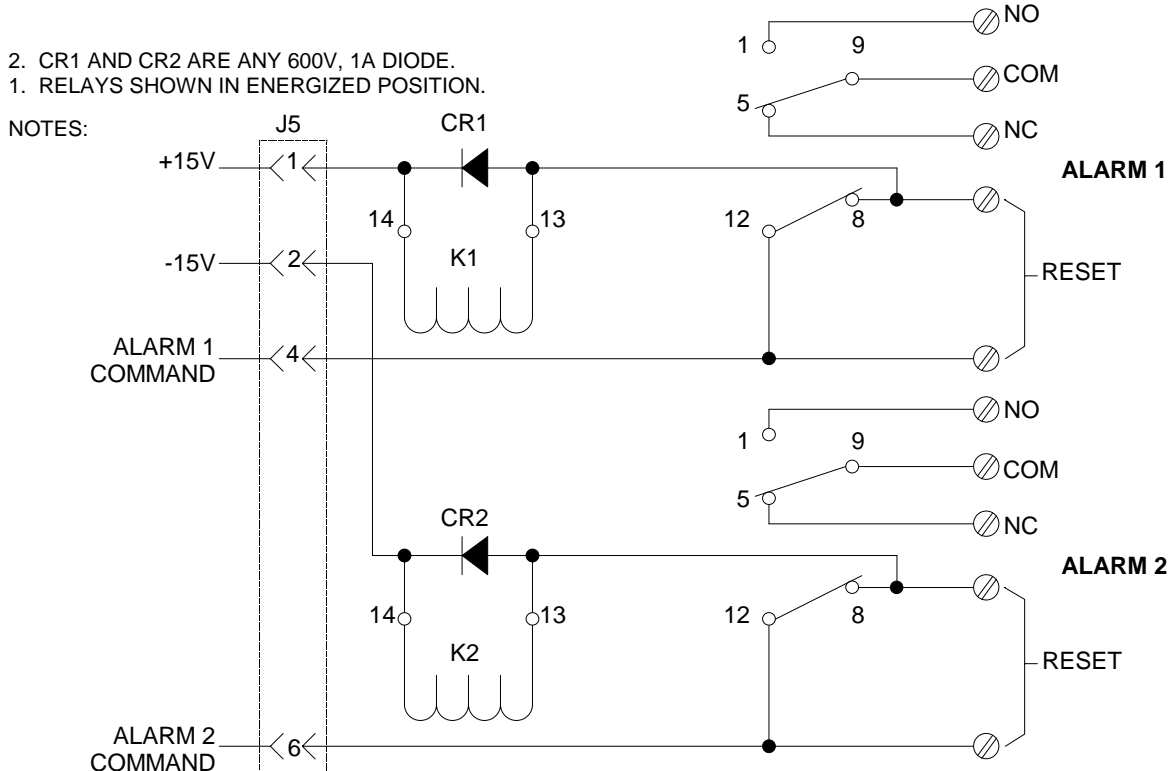

FIGURE 3-4. SCHEMATIC CIRCUIT OF ALARM RELAY ASSEMBLY
3. Set ALARM 1 calibration adjustment, R63, to its clockwise limit. Turn R63 counterclockwise the minimum required to energize ALARM 1 (relay K1, Figure 3-4). Energization may be verified by connecting an ohmmeter to relay terminals on 638254 Alarm Relay Assembly (Figure 2-1).
3. Set ALARM 1 calibration adjustment, R67, to its clockwise limit. Turn R63 counterclockwise the minimum required to energize ALARM 1 (relay K1, Figure 3-4). Energization may be verified by connecting an ohmmeter to relay terminals on 638254 Alarm Relay Assembly (Figure 2-1).